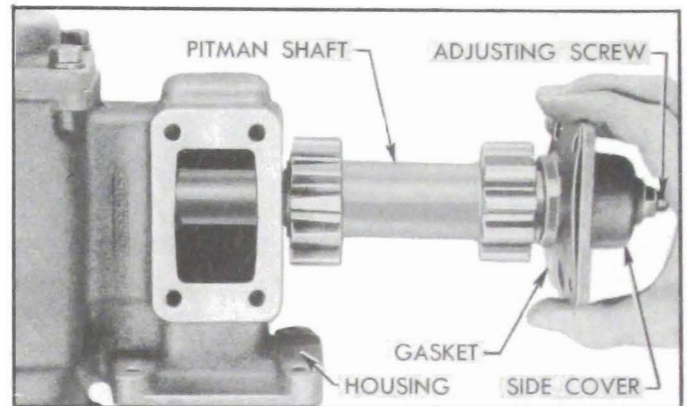

Figure 7-6—Removing Pitman Shaft and Side Cover
7. Turn steering shaft counterclockwise to move the ball nut to approximate center position, then remove the gear housing side cover and gasket with pitman shaft attached by the adjusting screw. See figure 7-6.